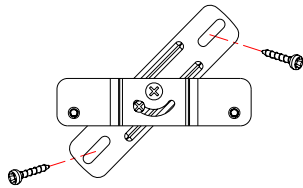

FIGURE 9
- (1) Switch off the power source.
- (2) Line up the holes on the mounting bracket with the holes on your junction box. Using fitting screws (depending on size of the holes in your junction box), attach the mounting bracket to your junction box. (FIGURE 9).